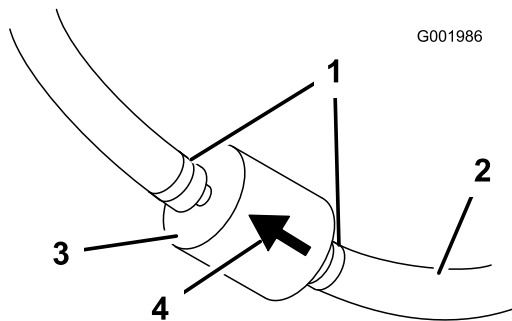

Figure 51
5. Squeeze the ends of the hose clamps together and slide them away from the filter (Figure 51).